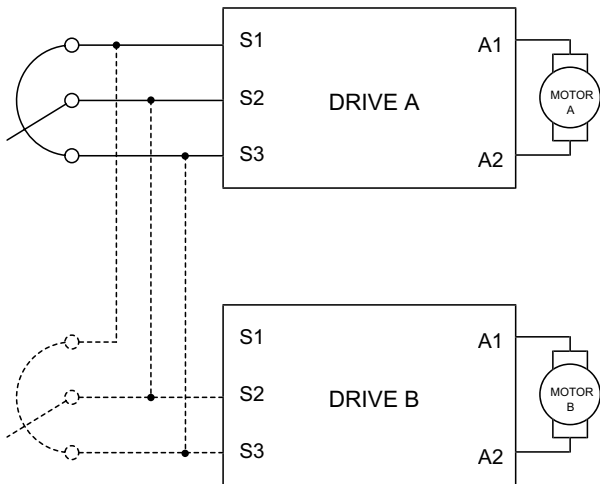

Figure 20. Single Speed Potentiometer Control of Multiple MMXL-PCM Series Drives
Because the potentiometer circuit is optically isolated from the drive circuitry, the inputs may be tied together. Up to eight (8) drives can be controlled with a single speed adjust potentiometer (see Figure 20 below).